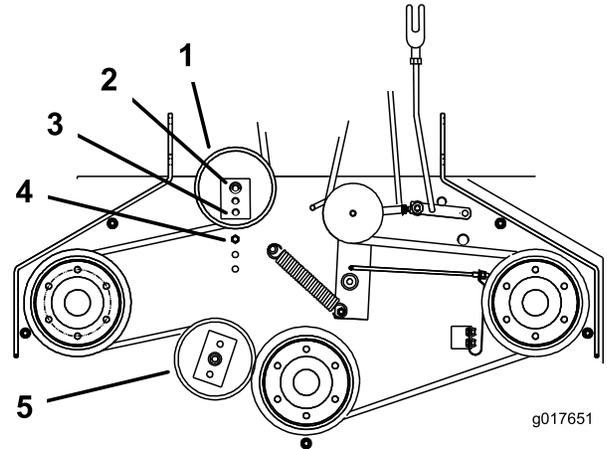

Figure 48
- positioned to the middle or front hole (Figure 48). Use the hole that will give the correct adjustment.
7. When the idler pulley is moved the belt guide must be moved. Move the belt guide to the front position (Figure 48).